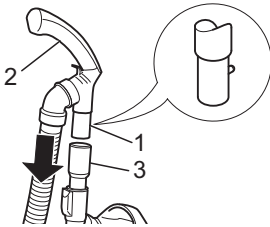

Fig.2
1. Press the locking pin (Fig. 2/1) and push the handle (Fig. 2/2) into the upper end of the telescopic tube (Fig. 2/3).